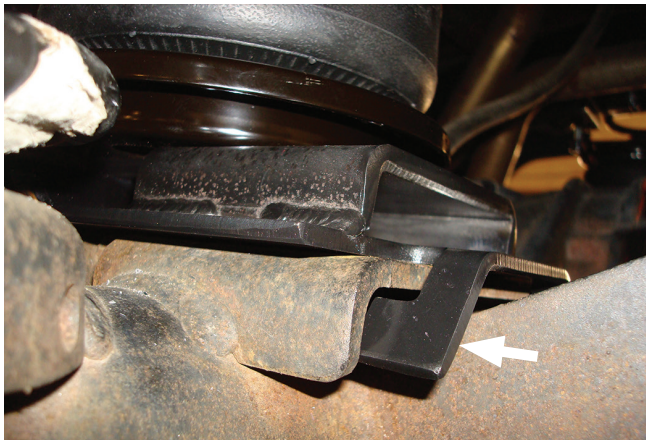

Fig. 22
3. Set the left (driver's) side assembly into position with the carriage bolt still in the slot (previously installed). Set into place on the axle, making sure the back of the bracket is "hooked" below the jounce bumper strike plate. Push the assembly forward while lining up the carriage bolt with the existing hole in the front of the lower jounce bumper strike plate (Figs. 22 & 23). Cap the carriage bolt with a 3/8" serrated lock nut (L), but leave it loose at this time.